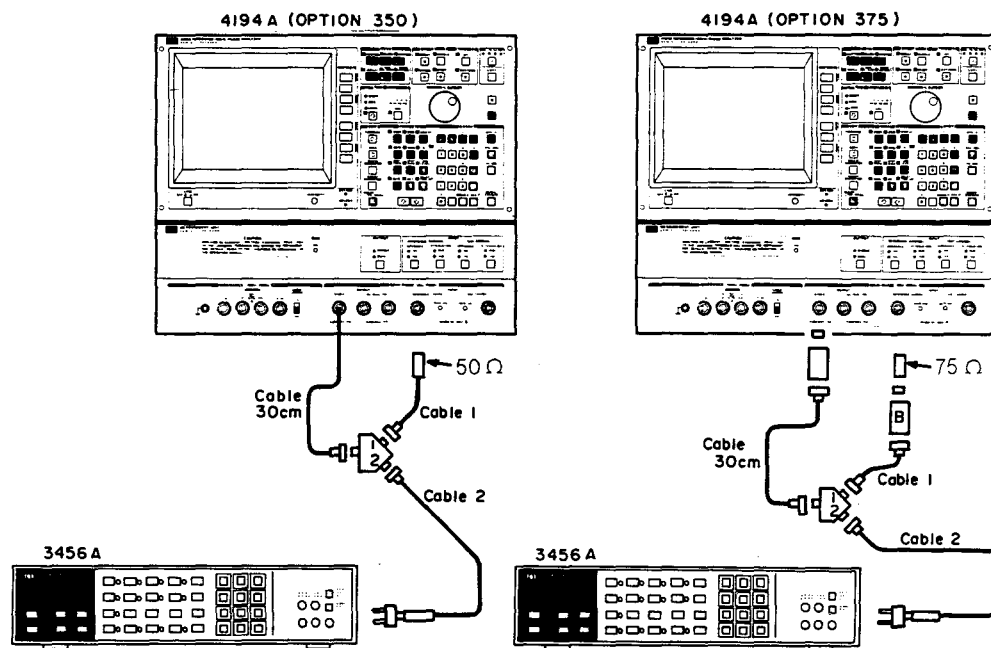

Figure 4-16. Amplitude Measurement Accuracy Test Setup 2
1. Connect the appropriate (50Ω or 75Ω) feedthrough termination to the REFERENCE CHANNEL as shown in Figure 4-16.